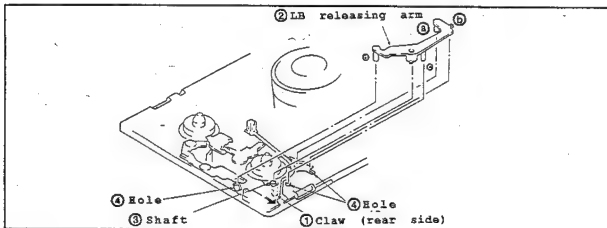

Fig.II-12
• Disassembling (Fig.II-12)
- (1) Take off the LB releasing arm ② while pushing the claw ① in the arrow direction.
• Reassembling (Fig.II-12)
- (1) Install the LB releasing arm ② to the shaft ③ while inserting a, b, c and d to the holes ④, respectively. Then, secure it by hooking the claw ①.